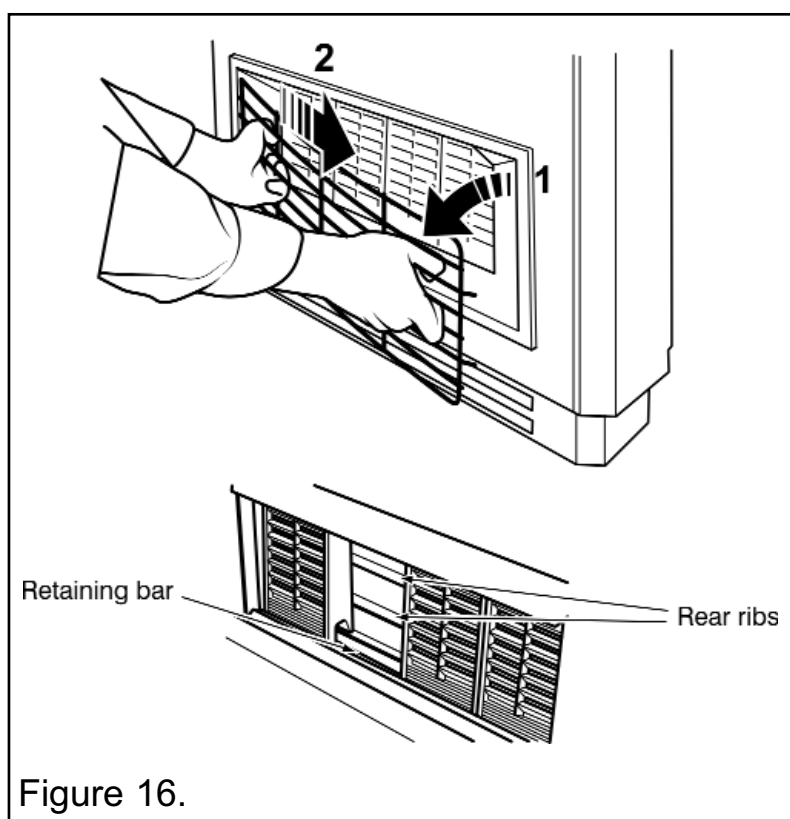

Figure 16.
1. Remove the dress guard by gently pulling it in the centre with one hand, and carefully springing out one end from the fascia with the other. Slide the opposite side of the dress guard clear of the fixing holes. **Take care not to scratch the trim** (See figure 16).